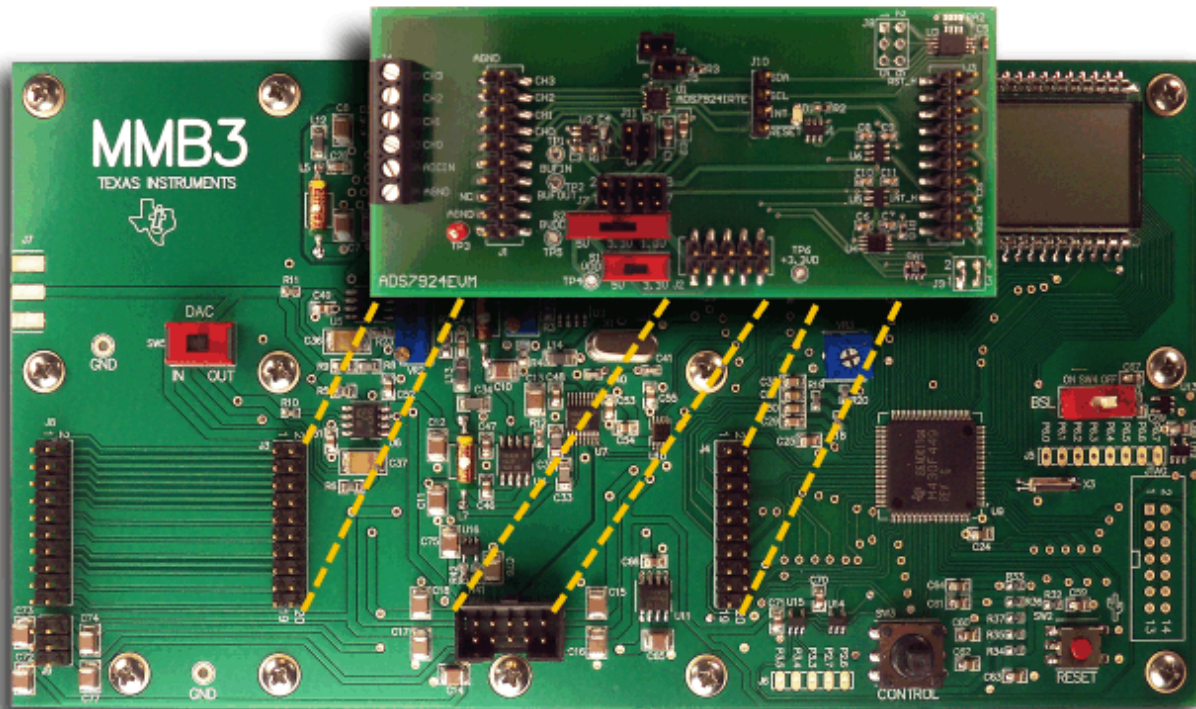

Figure 21. Connecting ADS7924EVM to MMB3
3. Plug the ADS7924EVM into the MMB3 as Figure 21 illustrates.